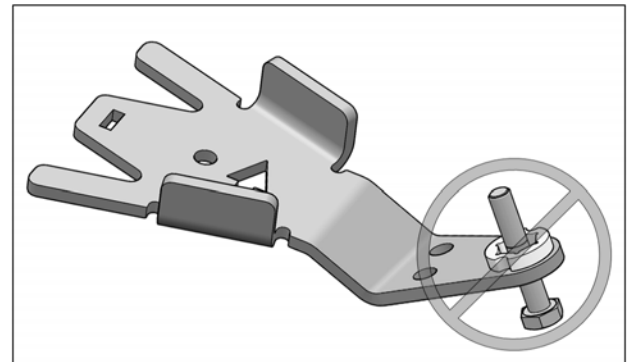

Fig. 17
**CAUTION:** Make sure that the bolt is inserted in the right direction. See Fig. 17